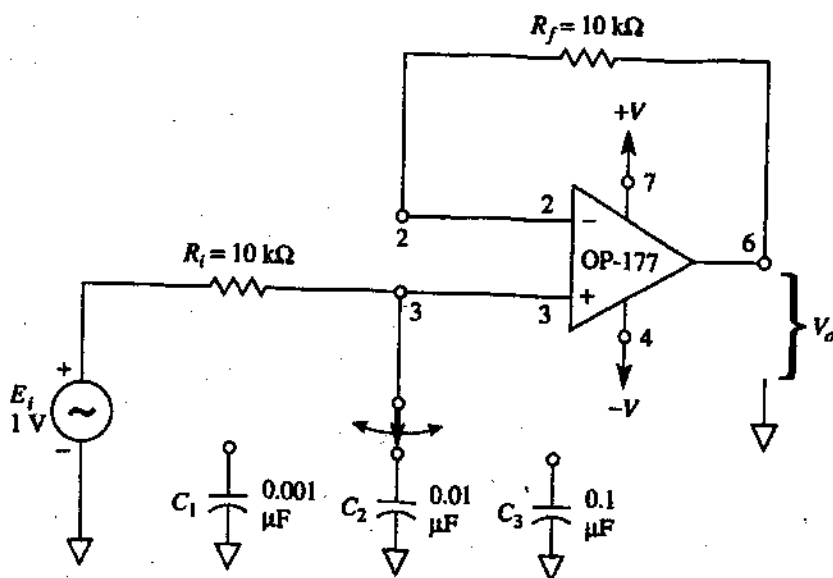

FIGURE P11-6
- 11-6. Calculate the cutoff frequency for each value of  $C$  in Fig. P11-6.